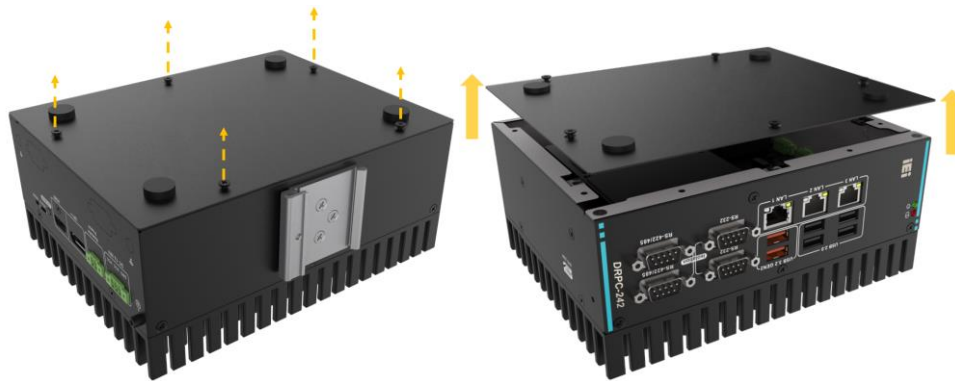

Figure 3-1: Remove the Cover
**Step 2:** Take off the back cover (Figure 3-1).